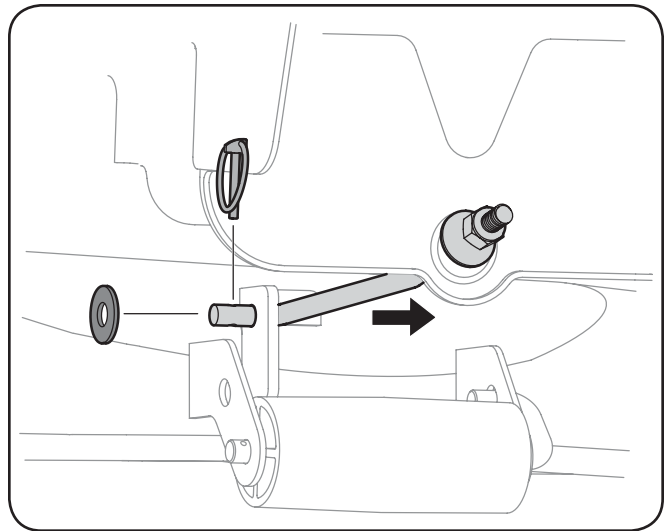

Figure 7-5
10. Gently slide the cutting deck toward the front of the tractor, carefully guiding the hooks on the deck off of the deck stabilizer rod. See Fig. 7-5.